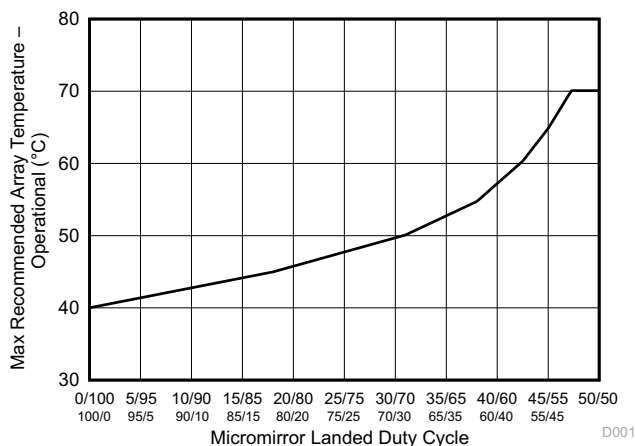

図 6-1. Max Recommended DMD Temperature—Derating Curve
- (12) Per 図 6-1, the maximum operational case temperature should be derated based on the micromirror landed duty cycle that the DMD experiences in the end application. Refer to セクション 7.7 for a definition of micromirror landed duty cycle.